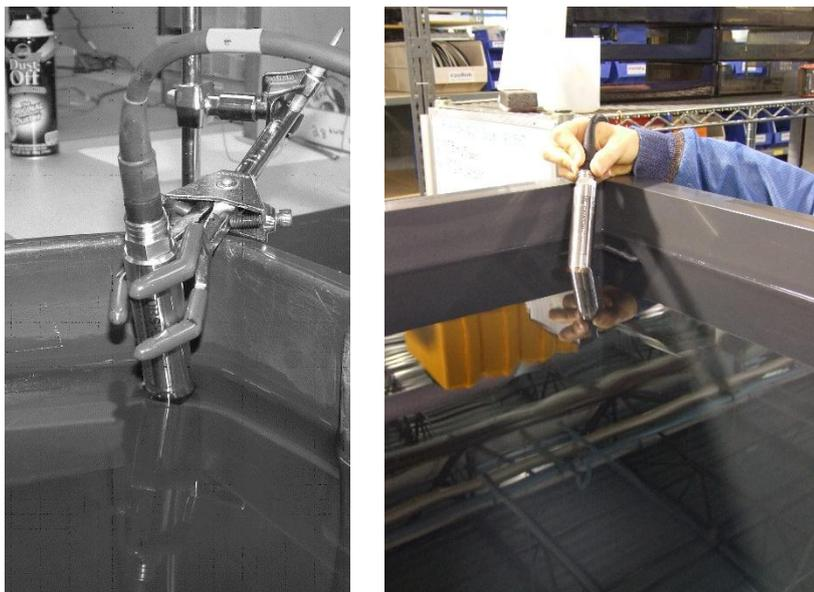

Figure 8-2. Position of OBS-3+ (left) and OBS300 (right) in clean tap water in big black tub
1. In a large black tub of fresh tap water, aim the OBS sensor so that it's the maximum distance from the sensor optics to the far corner of the tub (see Figure 8-2). Record a 10-second average of the low-range output. Record the average output on the calibration log sheet.
1. Record and log the clean-water signal as in Step 1, Section 8.1.3, *Procedure*; see Figure 8-2.